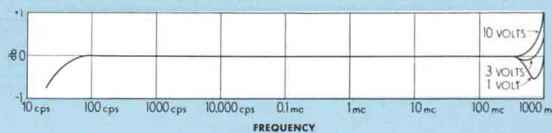

Figure 2. Frequency response
**Frequency Response:** Frequency response is flat within  $\pm 1$  db up to 700 mc and drops off less than 1 db at 20 cps. Probe resonant frequency is about 2000 mc, and an indication can be obtained up to 3000 mc. See Fig. 2.